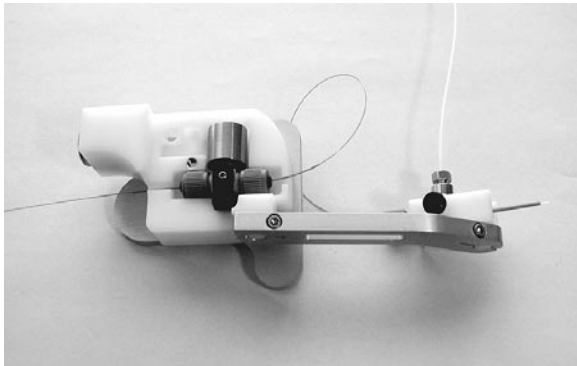

Figure 5.26: Plumbed MicroTee loaded in the UTM
- 3) Trim 5 mm from the end of a green SealTight™ sleeve and insert the sleeve through the ferrule and nut. Thread the back end of the fused-silica transfer line through the sleeve/ferrule/nut assembly. Cleave the back end of the transfer line and slip it into the left side of the union until the transfer line/ferrule/sleeve assembly seats against the PicoTip. Tighten the nuts on both ends of the union. Pull gently on the tubing to ensure the connections are tight. Figure 5.26 depicts a fully assembled ZDV union.
- 1) Lower the assembled MicroTee or ZDV union into the cavity in the base of the UTM. (See Figure 5.26). If using the MicroTee, the setscrews on the black cap should be visible when the MicroTee is properly in place. If using the ZDV union, angle the union slightly so the right side of the “T” bracket presses against the high-voltage connector. Twist and lower the assembled union into the cavity in the base of the UTM. An optional mounting screw can be used to further secure the union into the UTM.